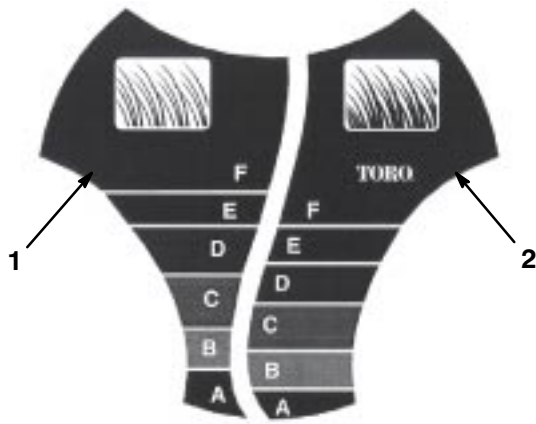

Figure 14
The *SmartWheel*™ has two cutting scales: *Sparse/Normal* and *Lush*—to ensure the best cutting height setting in any mowing condition (Fig. 14). Use the *Sparse/Normal* scale during the warm summer season for the majority of your mowing. The *Lush* scale is for thick, moist, and succulent grass that grows most often in the spring.
2. Move the lawn mower into the grass; stop moving the lawn mower when the *SmartWheel* design on one of the rear wheels is upright (Fig. 14).